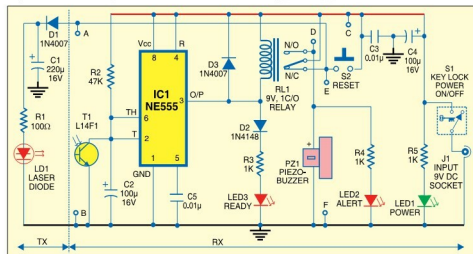
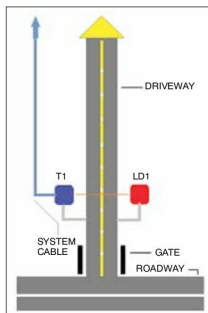

Fig. 1: Circuit of driveway alarm
Fig. 2: Installation plan
suitable case. Fit the entire PCB inside a glue stick tube as shown in Fig. 2. Affix the female and male connectors on the opposite ends and place the ammeter in between the stick tube. You
As shown in Fig. 1, the system comprises two modules: transmitter and receiver. The transmitter module (TX) is wired around a handheld laser pointer device (LD1). The laser pointer is powered by the 9V DC supply available from the receiver module (RX). Installation of the transmitter and receiver modules is shown in Fig. 2. Resistor R1 limits the current flowing through the laser pointer (LD1).